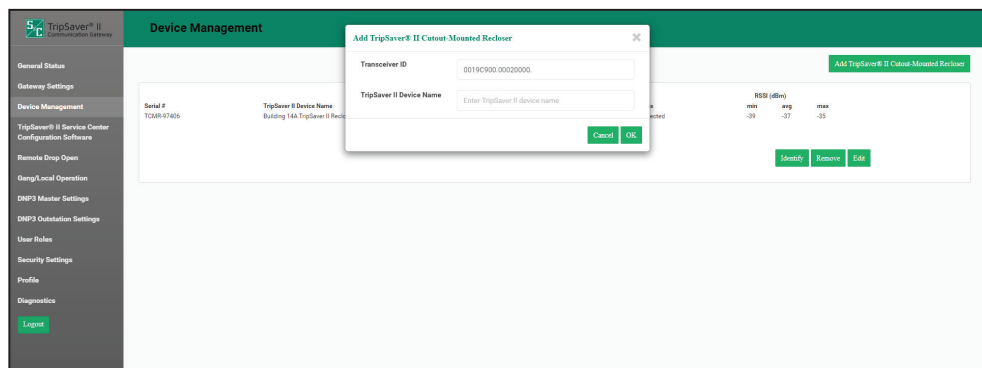

Figure 7. The *Device Management* screen.
STEP 3. Navigate to the *Device Management* screen. See Figure 7.